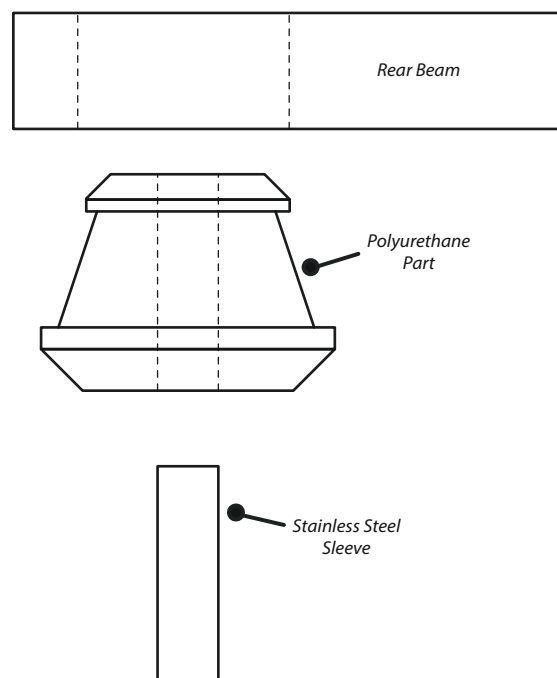

Figure 1
3. Push the polyurethane part into the beam from underneath with the small diameter first, as shown in figure 1. There is likely to be a pop noise as the polyurethane part is pushed through to the top of the beam. **TIP:** Apply some washing-up liquid to the polyurethane part to aid in fitting.